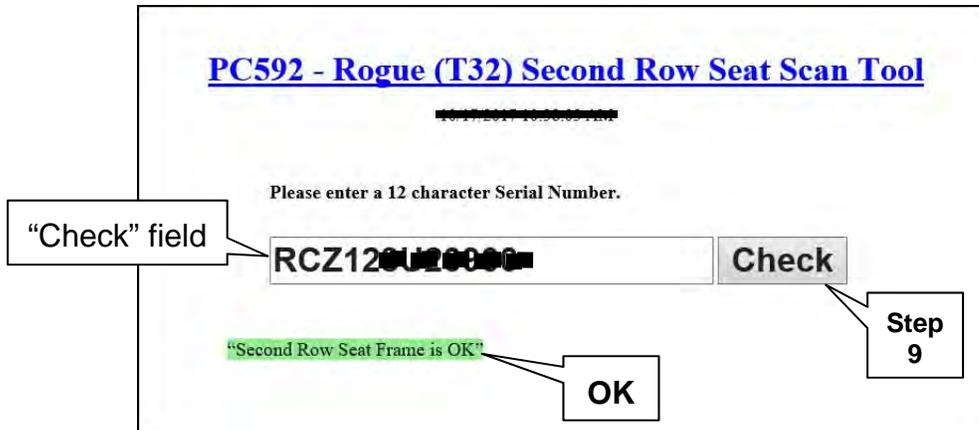

Figure 9
- If the quick scan tool cannot read the bar code, manually input the serial number printed above the bar code in the “Check” field (see Figure 9 and 10).
8. After scanning, the serial number will populate in the “Check” field on the CONSULT PC screen (see examples in Figure 9 and 10).
9. Select **Check**, and then read the results below the “Check” field (see Figure 9 and 10).